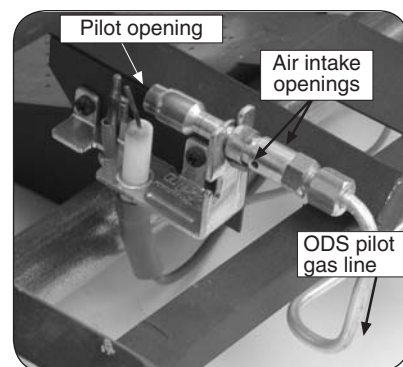

Fig. 23-1
1. Turn the vent-free gas log set to the off position and allow it to cool. Inspect the ODS pilot area (see Fig. 23-1) for any visual contamination or debris (usually lint, hair, spider webs, or small insects). Lightly brush off all external surfaces while vacuuming loosened debris from the ODS pilot opening. **Be careful not to brush any foreign material into the ODS pilot opening.**
5. Relight the ODS pilot and inspect it to be sure it is burning as shown in the instructions. If not, extinguish the ODS pilot and **turn off the gas supply to the gas log set**. Using an adjustable or a 1/4" wrench, disconnect the ODS pilot gas line (see Fig. 23-1) from the valve.